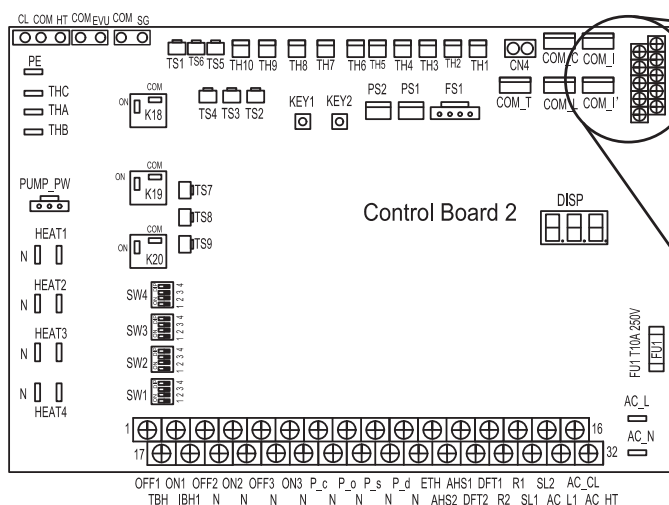

Figure 7-1: Hydraulic PCB U19 communication ports
5. Connect the 2 core modbus cable to the H1(B-) and H2(A+) terminals on the Hydraulic PCB board. Refer to Figure 7-1.